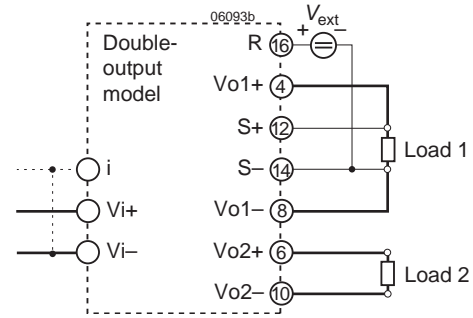

Fig. 20 Output adjust using an external control voltage V_{ext} .
a) Adjustment by means of an external control voltage V_{ext} between R (pin 16) and S- (pin 14), see fig. 20.